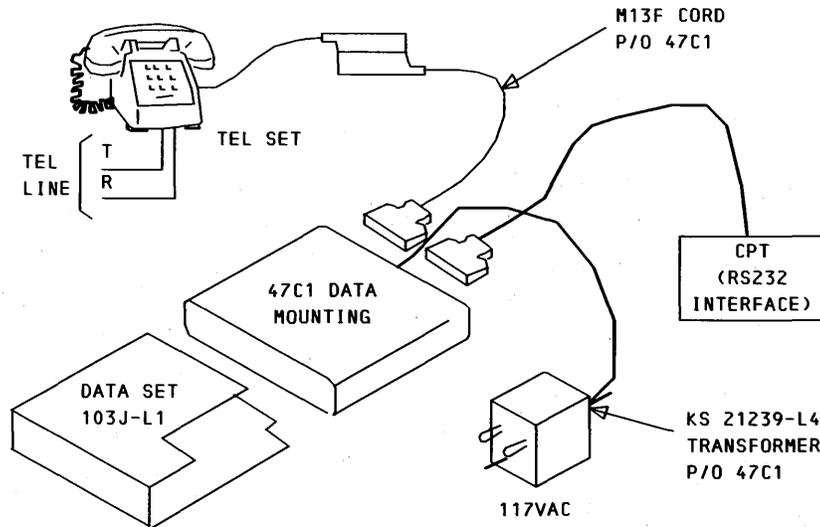
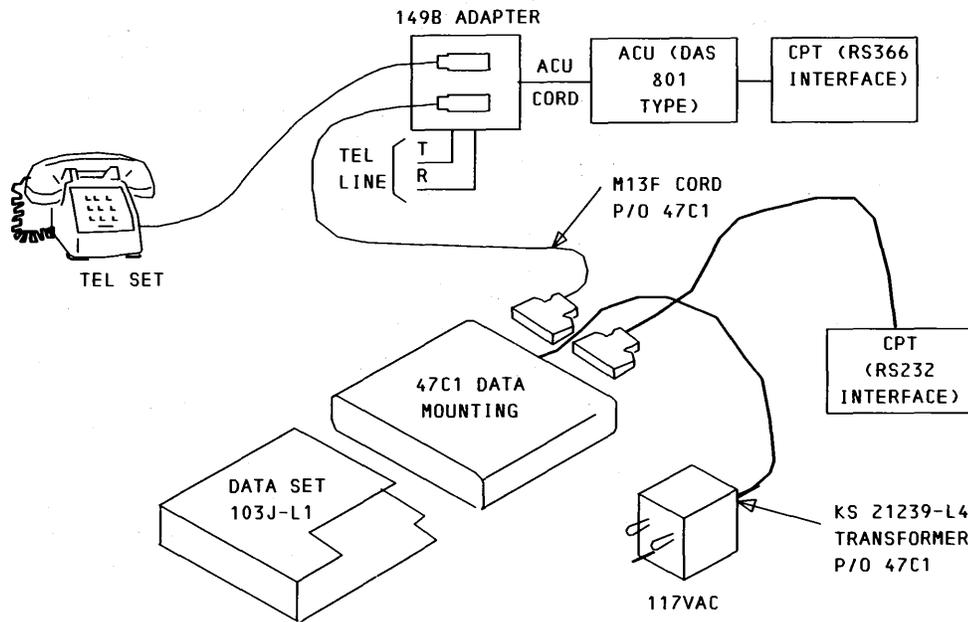

Fig. 3—Single Data Set Installation Without ACU
Fig. 4—Single Data Set Installation With ACU
- **DS 103J-L1/2:** Printed circuit pack assembly DS 103J-L1; housing assembly, power cord and transformer, and M13F cord (Fig. 3).
- One data set enclosed in a 47C1 data mounting and a 565HK or 2565HK key telephone set (Fig. 3). An 801A- or C-type ACU may be installed as an option using a 149B adapter (Fig. 4). The telephone set is not required when automatic calling is used; and/or when the auto answer option is installed and manual operation and voice communications are not needed.